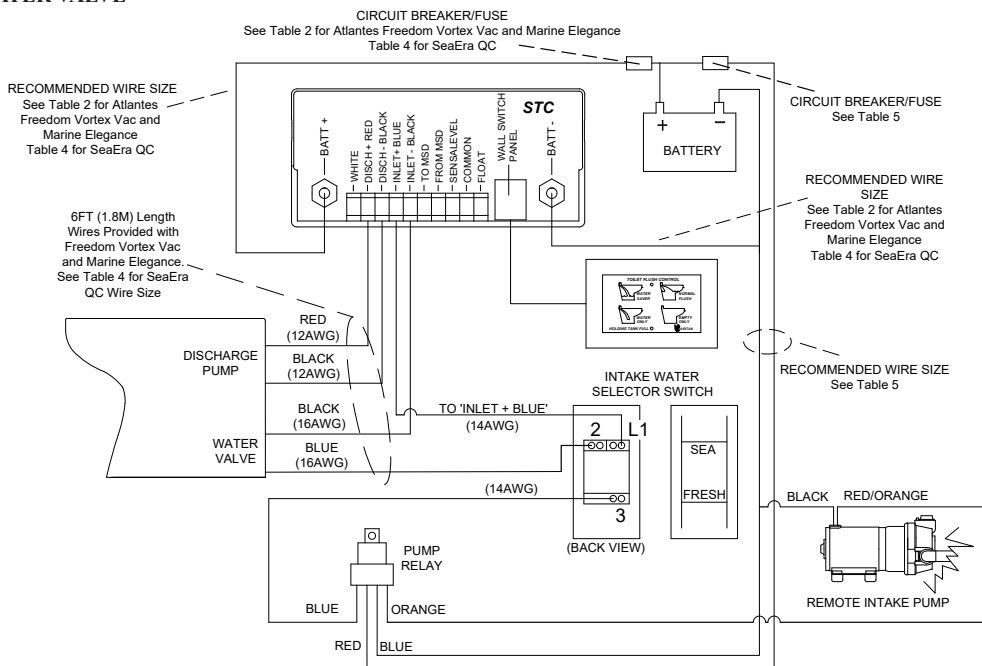

FIG 6
- To start Electrosan or Purasan EX from Smart Toilet Control(STC), wire per Fig 6.